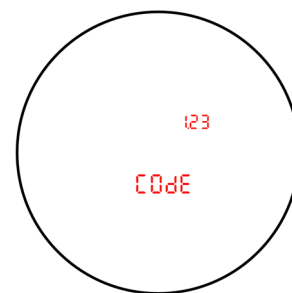

Figure 27
2. Short press the Menu button to scroll until the Code Firmware option screen is displayed. In Figure 27, Code 123 is used as an example.